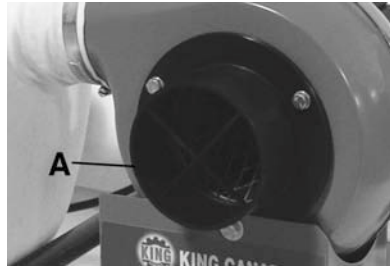

Figure 6
Now that your dust collector is ready for use, it is now necessary to connect a 4" diameter flexible hose (not included) from your dust port on your tool to the 4" plastic inlet of your dust collector. It may be necessary to purchase a reducer adaptor in order to connect a 4" hose to a smaller diameter dust port on your tool. Place an adequate hose clamp (not supplied) over hose and slide hose over the inlet (A) Fig.6. Fix hose to inlet with clamp.